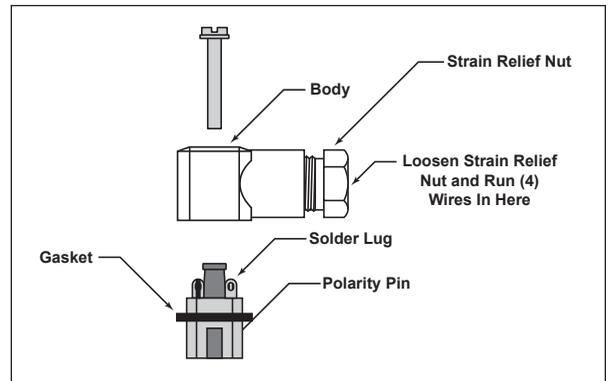
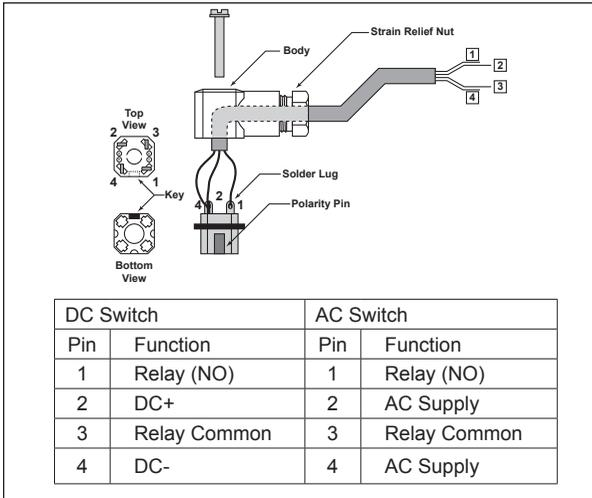

Figure 13. Latching Switch Installation
Figure 14. Latching Switch Installation
2. The connector has four solder lugs labeled 1, 2, 3 and 4. Soldering wires to the terminals first requires disassembly of the connector as shown in **Figure 13**. The specific wiring pinouts for each style latching switch are shown in **Figure 14** on page 10.